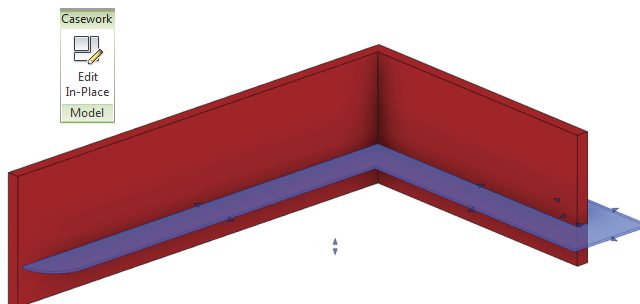

FIGURE 5.14 Edit Casework in-place family
2. Select the countertop extrusion, and choose Edit In-Place on the ribbon to edit the Casework family (Figure 5.14).